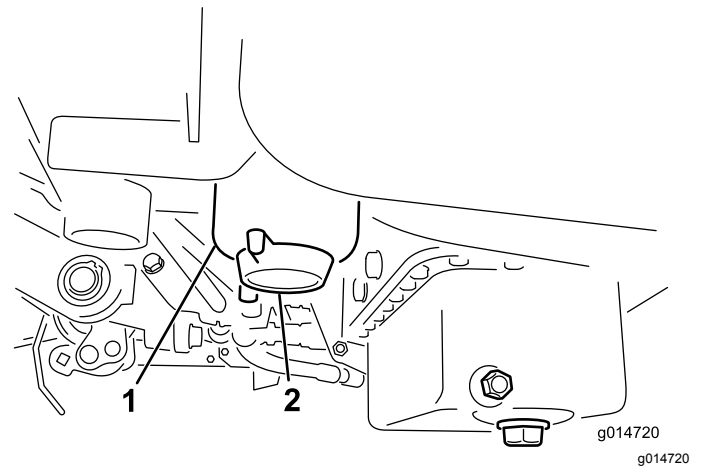

Figure 26
3. Open the drain plug on the fuel filter approximately one turn and drain any accumulated water (Figure 26).